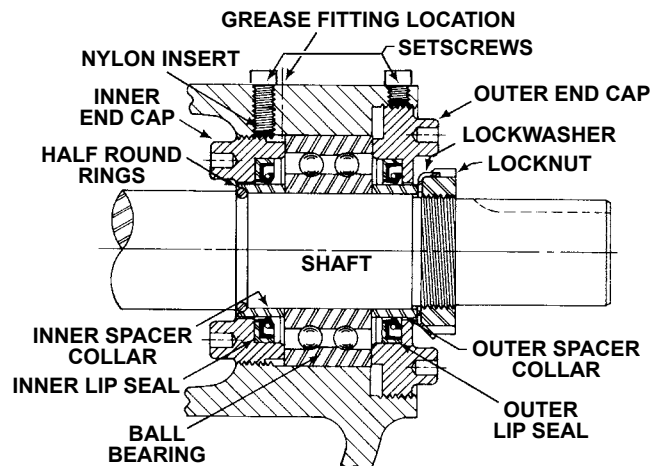

FIGURE 8
5. Drive the shaft forward approximately 1/2" and check the pair of half round rings ("K" - "LL" size) under the inner bearing spacer collar or a snap ring ("HL" size) at the end of the inner bearing spacer collar, see figure 8.
7. Loosen the four setscrews over the outer and inner end caps. Remove both end caps, ball bearing and bearing spacer collars. See figure 8.